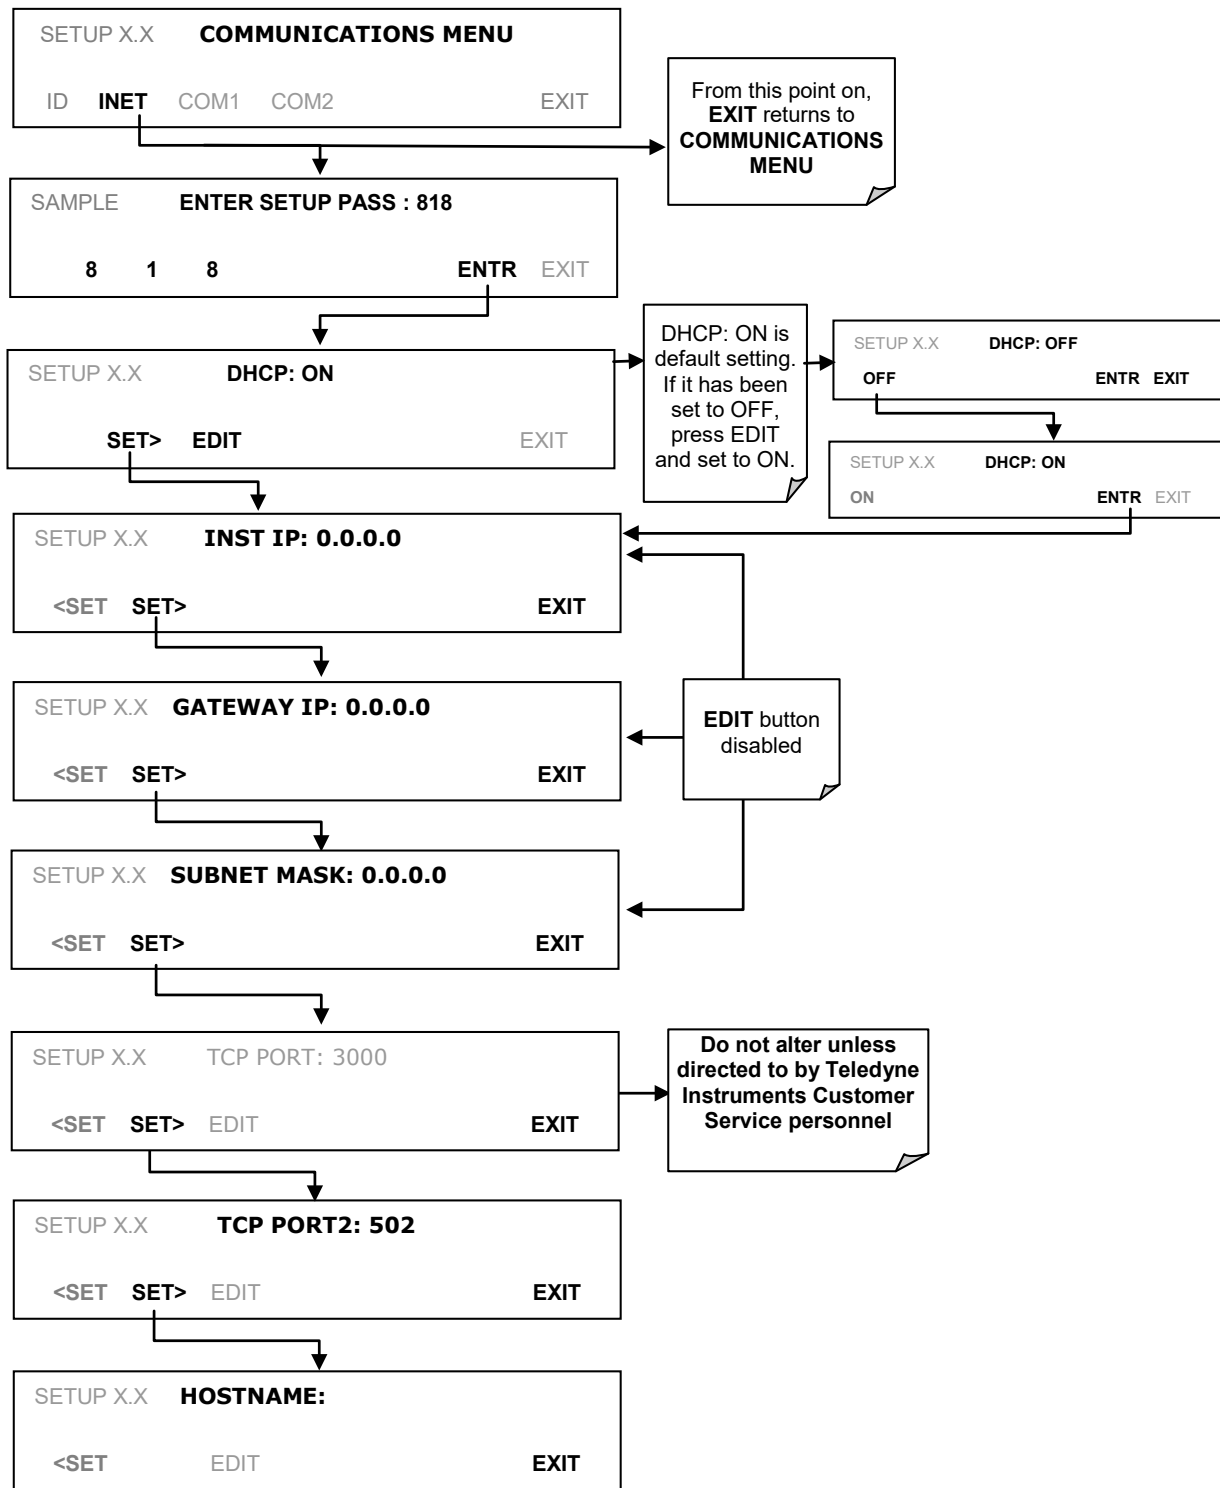

Figure 6-5. COM – LAN / Internet Automatic Configuration (DHCP)
3. Enter the INET menu and follow the setup sequence as shown in Figure 6-5.
The **HOSTNAME** is the name by which the analyzer appears on your network. The initial default Hostname is blank. To assign or change this name (particularly if you have more than one T200 analyzer on your network, where each must have a different Hostname), enter the **SETUP>COMM>INET** menu and scroll to the **HOSTNAME** menu as in Figure 6-5; make the changes as shown in Figure 6-6: